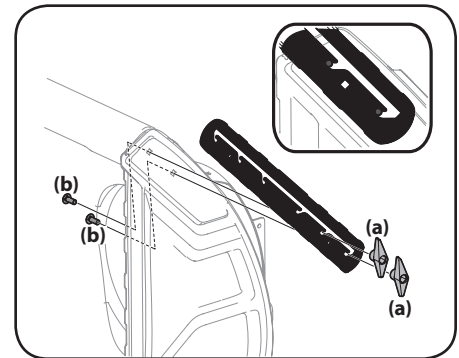

Figure 2-7
1. Remove two carriage bolts (a) and wing nuts (b) that secure each drift cutter, and remove them from the sides of auger housing. See Figure 2-7.
2. Turn the drift cutters around and position them as shown in Figure 2-7 to the outside of the auger housing.